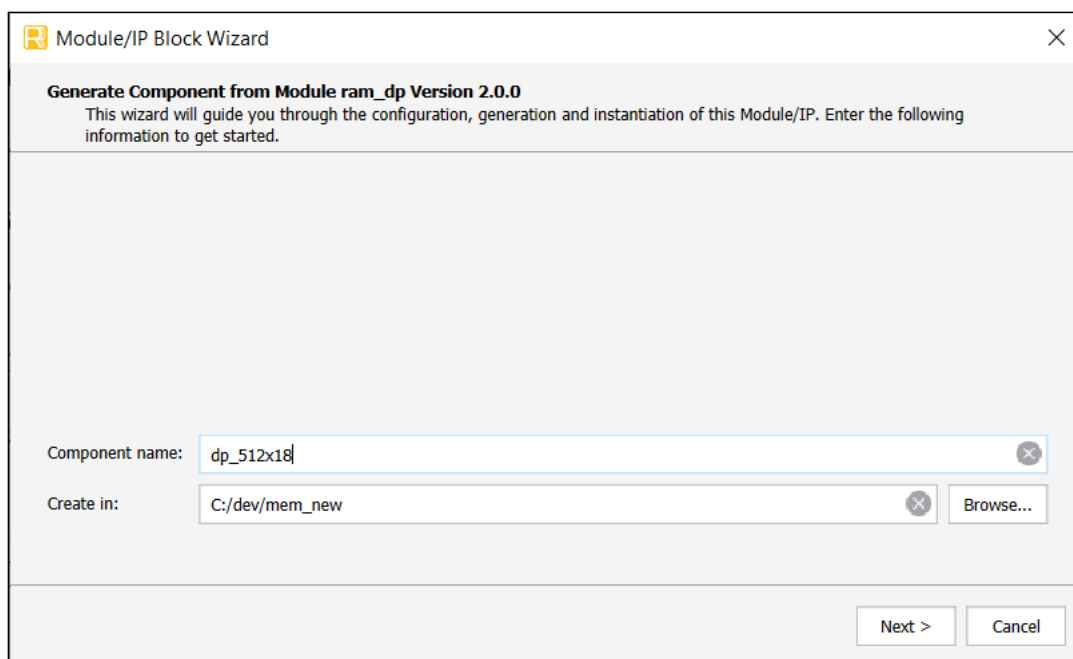

Figure 3.2. Example: Generating RAM_DP Using Module/IP Block Wizard
2. The **Module/IP Block Wizard** opens as shown in Figure 3.2. Enter values in the **Component name** and the **Create in** fields then click **Next**.
- Click the **Finish** button. All the generated files are placed under the directory paths in the **Create in** and the **Component name** fields shown in Figure 3.2.